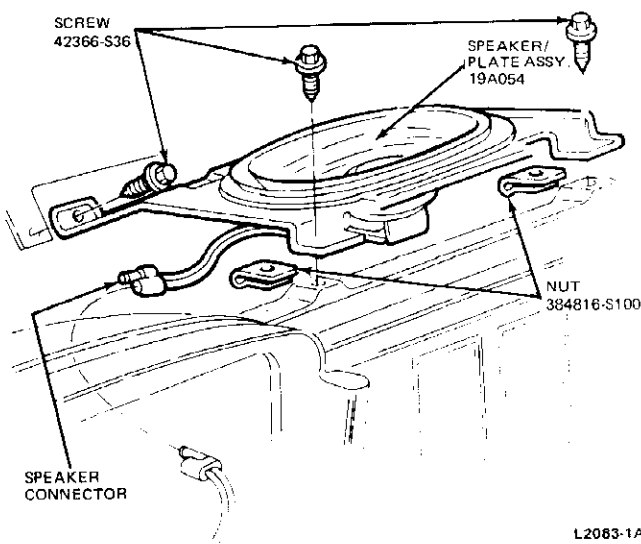

FIG. 6 Front Speaker Installation—Granada and Monarch
3. Remove the three (3) screws attaching the speaker to the speaker mounting plate and lift the speaker from the plate. Disconnect the radio and speaker connector.
4. Remove the speaker (Fig. 6).